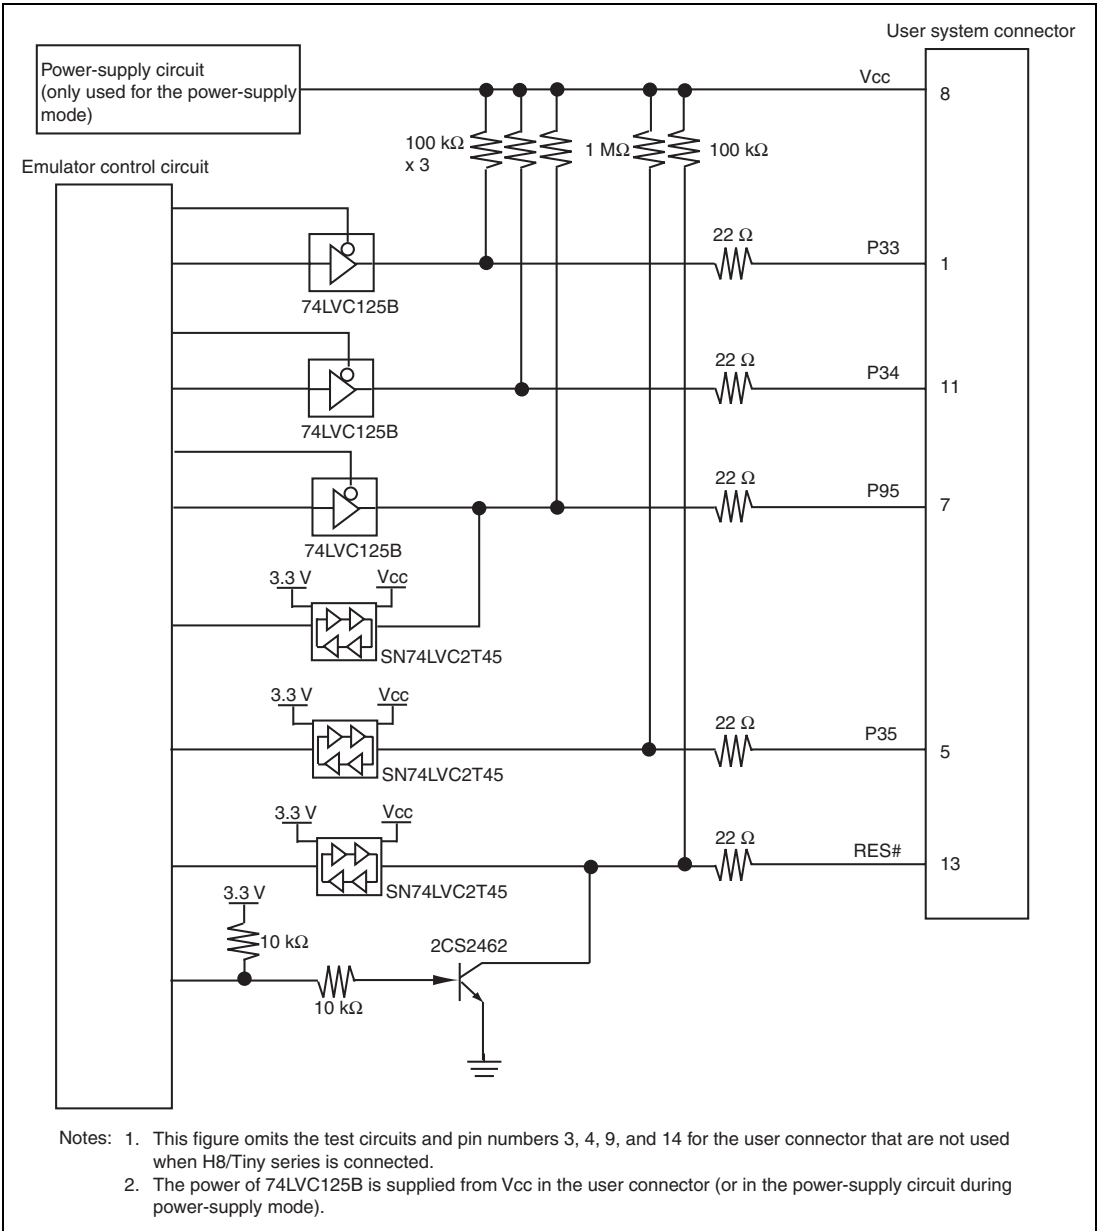

Figure 4.6 Interface Circuit in the E8a Emulator (Reference)
8. Figures 4.6 shows the interface circuit in the E8a emulator. Use these figures as references when determining the pull-up resistance value.